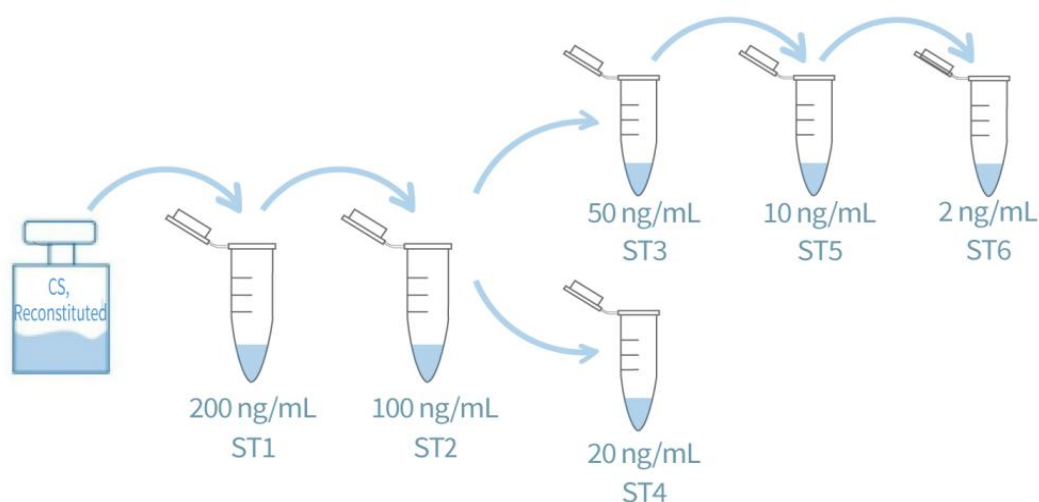

Figure 3. Graphic scheme of *P.pastoris* HCP Calibration Standard Solutions
(3) Preparation of Calibration Standard Solutions
- Prepare *P.pastoris* HCP Calibration Standard Solutions as showed in Fig 3 and Table 3.